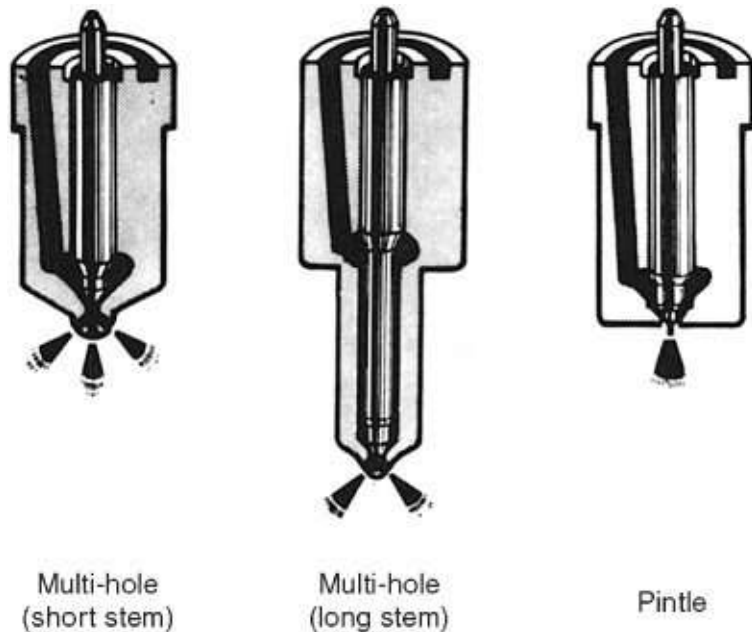

FIGURE 2-7. *Types of injector nozzles. (Courtesy Lucas/CAV)*
- *Hole-type nozzles* force the fuel through one or more tiny orifices. Varying the size of the hole(s) atomizes (breaks up) the fuel to a greater or lesser extent. Changing the number and angles of the holes projects the fuel to different parts of the combustion chamber (see Figure 2-7).